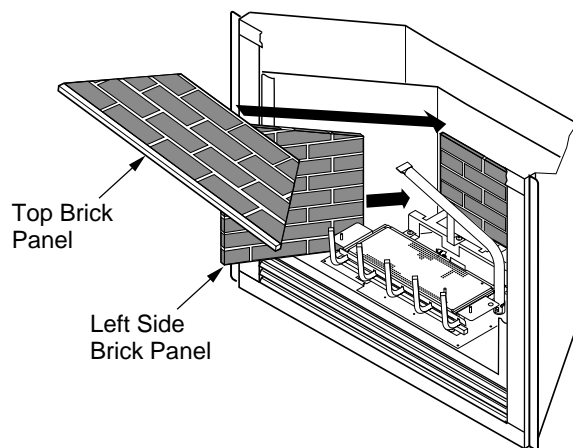

Figure 39 - Installing Left Side and Top Brick Panels
6. Install top brick panel by resting on the top of the rear panel. Hold the top brick panel in place and install left side brick panel by sliding it between the grate and the side of the firebox, securing top panel (see Figure 39).